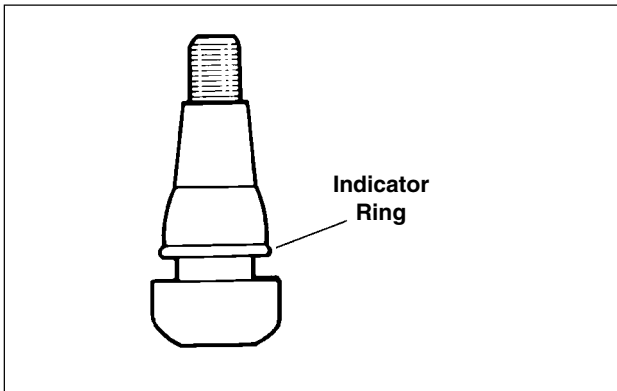

Figure 2-30. Snap-in Tubeless Tire Valves
- a. See Figure 2-30. Moisten the valve with water and insert valve stem through rim hole.